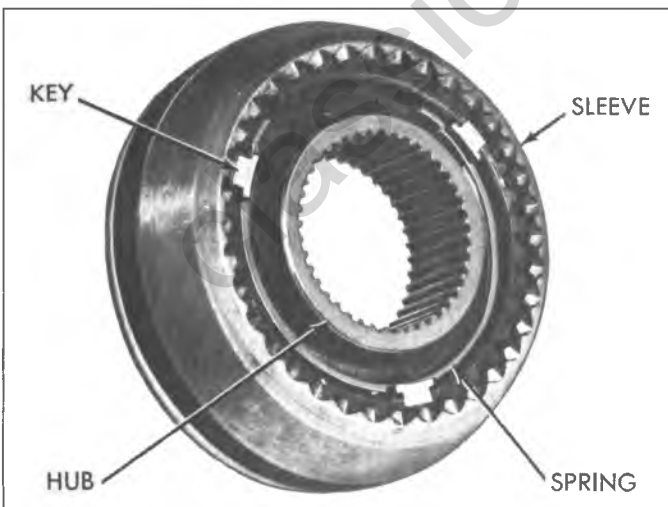

Fig. 5G-Synchronizer Assembly
3. Place the three keys and two springs in position (one on each side of hub), so all three keys are engaged by both springs (fig. 5G). Slide the sleeve onto the hub aligning the marks made before disassembly.